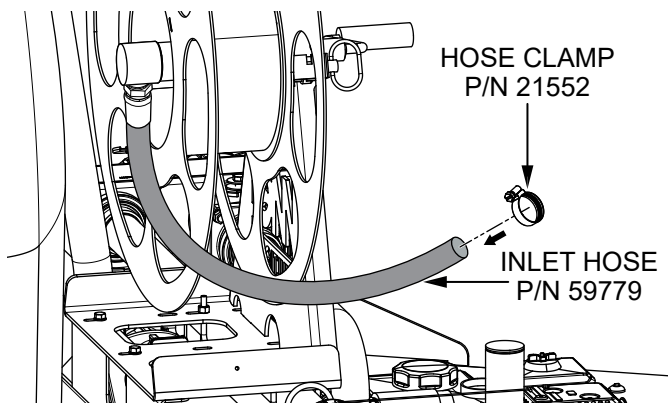

Figure 10. Place Hose Clamp Onto Inlet Hose
8. Place the **hose clamp (P/N 21552)** onto the **hose reel inlet hose (P/N 59779)**. See Figure 10.